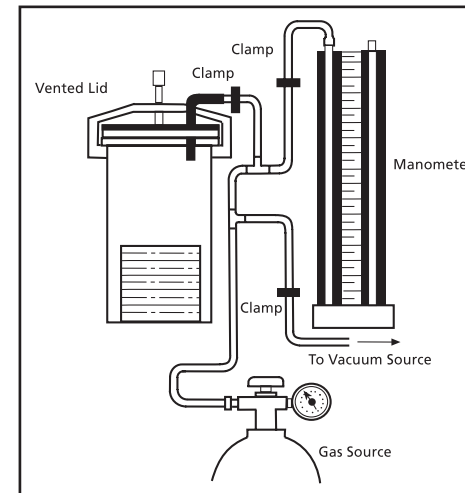

Figure 2
- Attach a short rubber tube on the vent of the BD BBL GasPak 100 lid or the BD BBL GasPak 150 jar to multiple stopcock or plug (Fig. 2). Outlets are needed for a manometer, gas source (hydrogen, nitrogen, methane, carbon dioxide, or a mixture of hydrogen plus carbon dioxide), and a vacuum source.